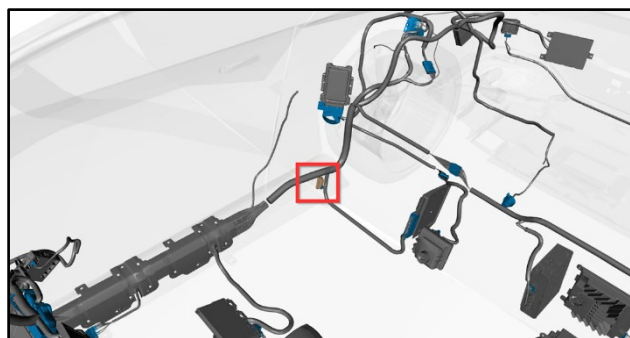

Figure 21
4. **EDiff Private CAN** – This header is behind the rear right trim, near the battery (refer to Figure 21).